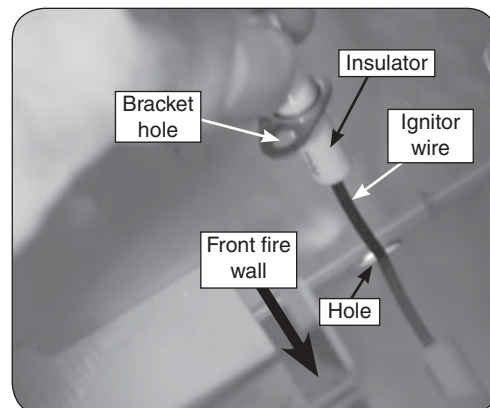

Fig. 3-1 Slide the wire through the fire wall
1. Locate the new ignitor wire assembly with the insulator and thread the insulated wire through the hole in the forward fire wall left by the old ignitor box, as shown in Fig. 3-1. Mark the fire wall through the hole in the bracket on the insulator and drill a hole (approx. 0.09 inch dia.) in the fire wall for the screw.